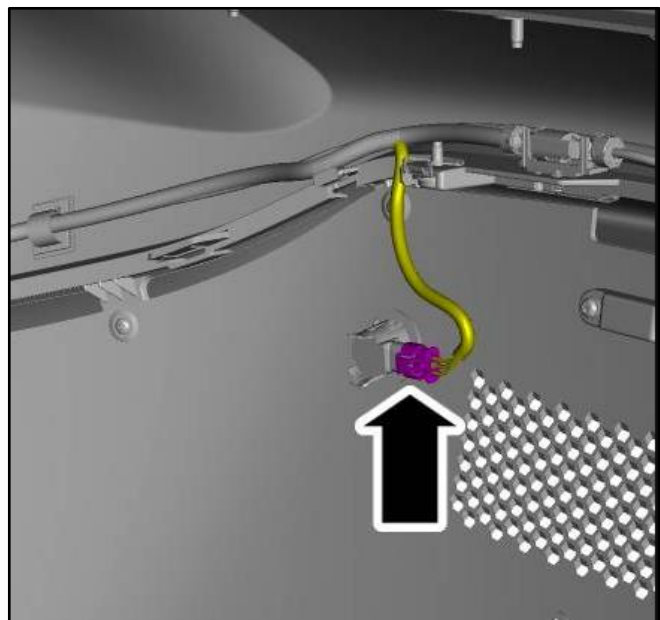
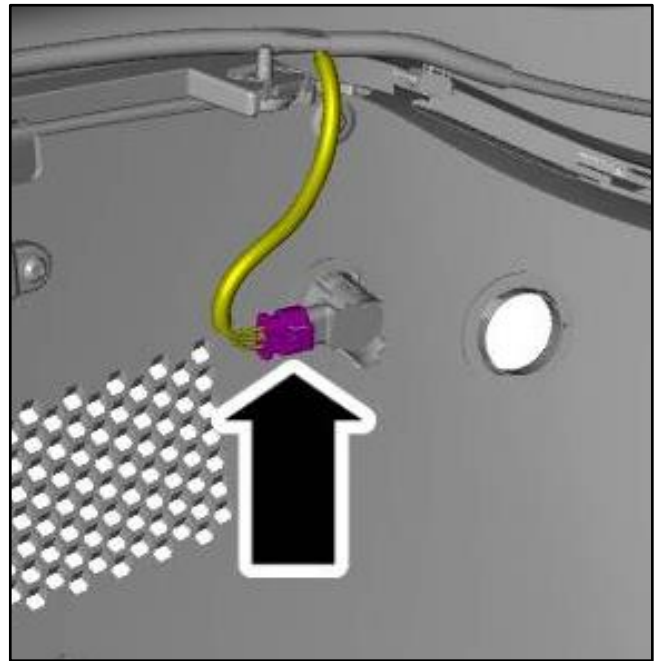

Figure 1
Figure 2
2. Disconnect the electrical connectors from the two inboard parking sensors in the front of the vehicle. (Refer to Figure 1 and Figure 2.)